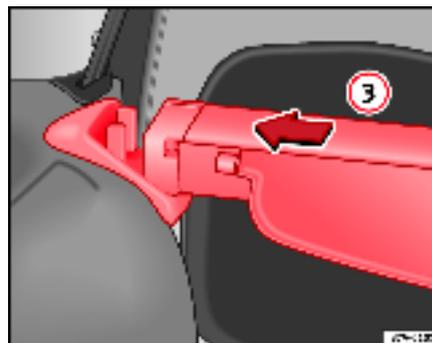

Fig. 114 Luggage compartment cover: holders on the right
- Push the luggage compartment cover to the stop in the direction of the arrow ⇒ page 146, fig. 114 ③ into the left-hand holder.